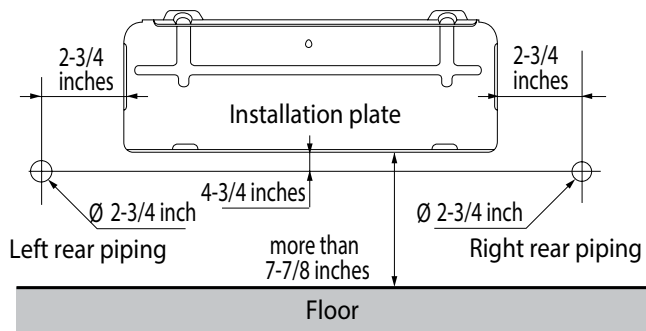

Figure 4: Mounting Plate Location
2. Position the mounting plate at the installation location on the wall. Be sure to allow for the spacing as shown in Figure 4.